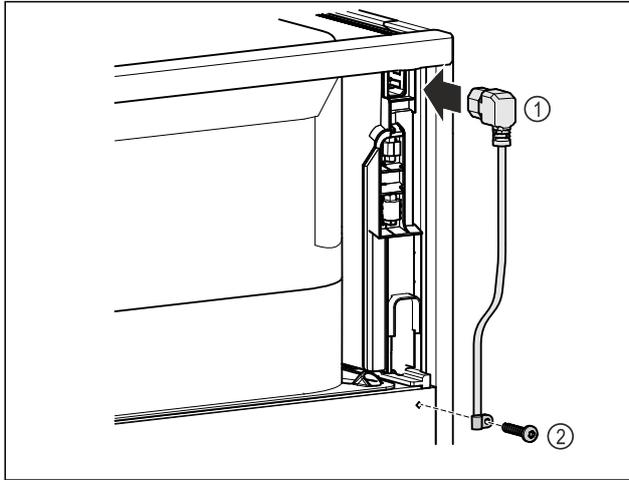

Fig. 72
- ▶ IEC socket of the power cable Fig. 72 (1) on the rear side of the appliance.
- ▶ Install mains tension relief. Fig. 72 (2)